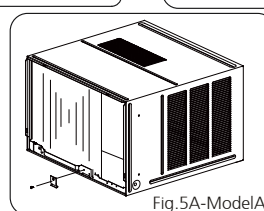

Fig.5A-ModelA
1. Remove one screw securing the chassis fixing bracket, then take down the chassis fixing bracket as shown in Fig.5A.